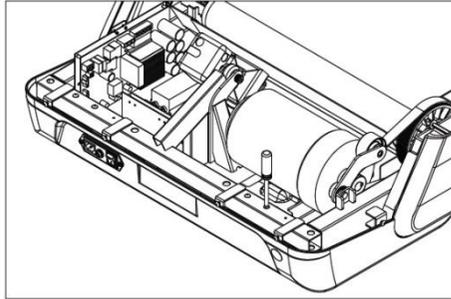

Figure 4.3.1
4.3.2 As shown in Figure 4.3.1, use the screwdriver to remove the motor ground wire (green yellow) and the motor connected to all wires on the control panel.